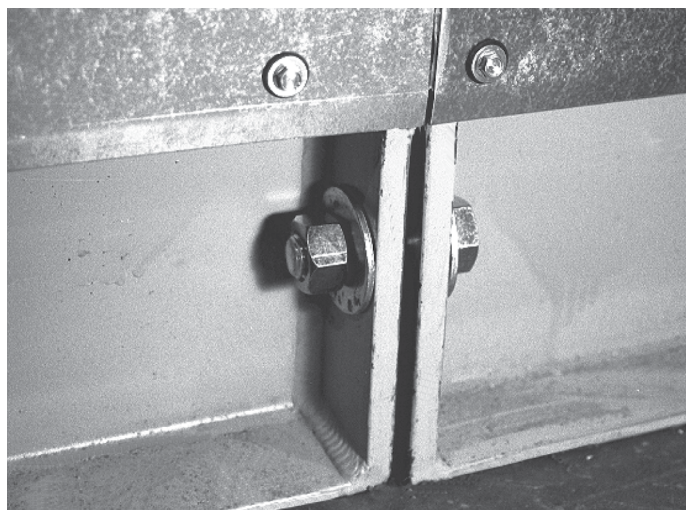

FIGURE 7. Field joint located on base. Use only these bolts to pull the modules together!
- 8) Insert bolts that join the first two modules in the unit base and tighten. The large bolts in the unit base may be used to help pull the two modules against each other. Do not use any of the internal field joints to pull the units together. (See **FIGURE 7**).